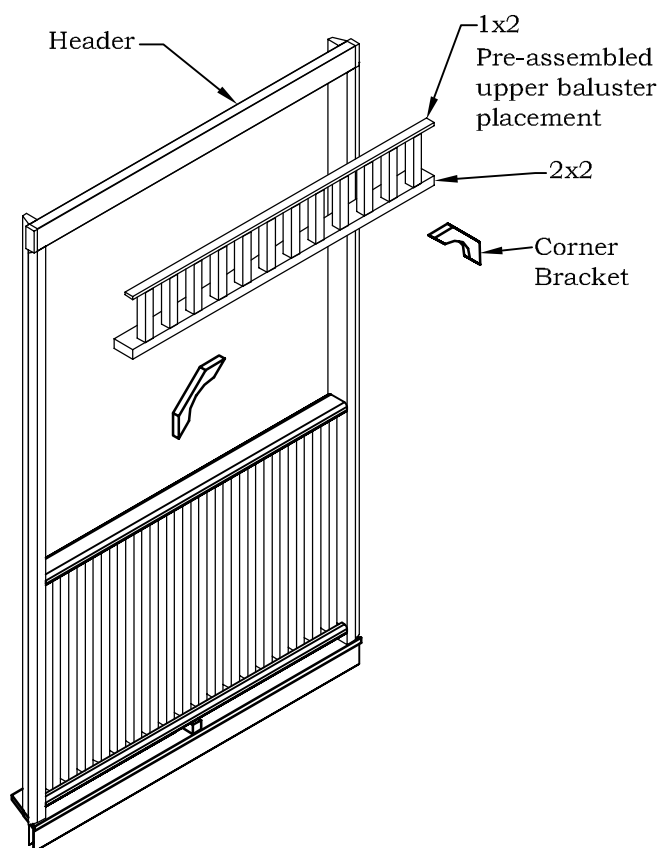

FIGURE W6
- Place the upper baluster units so that they fit snug up against the Headers and the posts. You will need to use two 2" screws to fasten the 1 x 2 into the header, and two 3" screws to attach the 2 x 2 into the posts. See Figure W6.
- When all of the upper Baluster units are place, attach all corner brackets using 3" screws. See Figure W6 for screw pattern. To prevent splitting the Corner Brackets, we recommend pre-drilling screw holes using a $\frac{1}{8}$ " bit. Also, before attaching the Corner Brackets, use a carpenter's level. If they are not square, have your helper assist you square up the posts by gently pushing them square while you insert the screws.